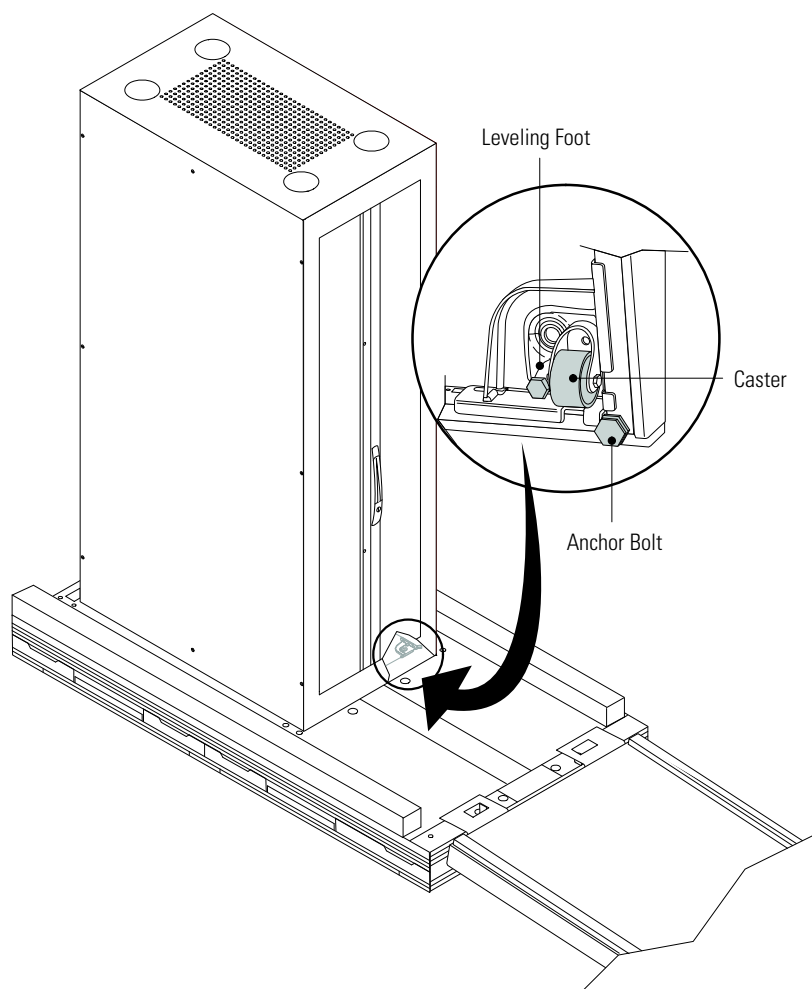

Figure 7. Locating the Leveling Feet and Anchor Bolts
2. Remove the four anchor bolts from the bottom of the system (see Figure 7).
3. If the leveling feet are not fully retracted, turn the leveling feet clockwise until they are retracted (see Figure 7).